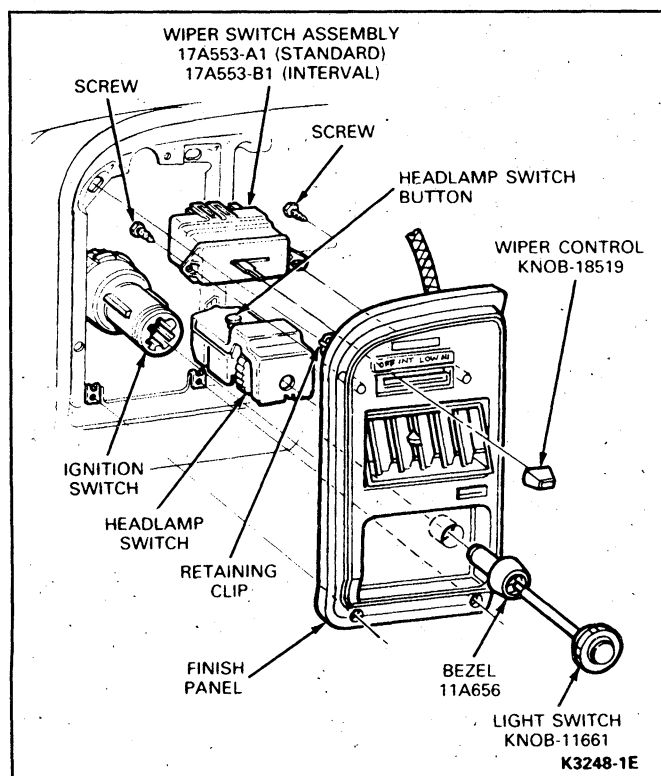

FIG. 15 Windshield Wiper Control Switch Installation—E-150—E-350
3. Remove the ignition switch bezel (Fig. 15).